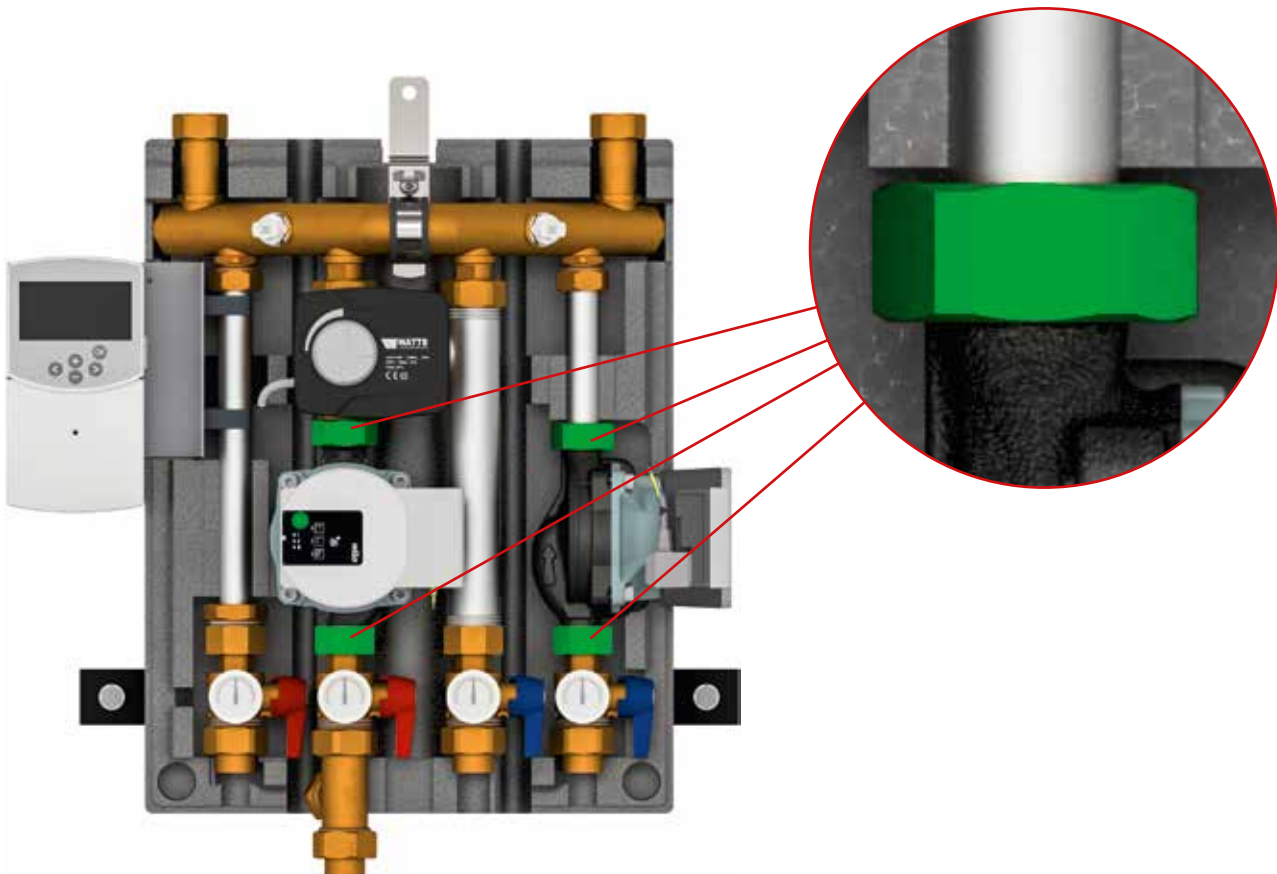

Abb. 7: Dismantling the circulating pump
- Loosen the nuts and dismantle the circulating pump (see Fig. 7).